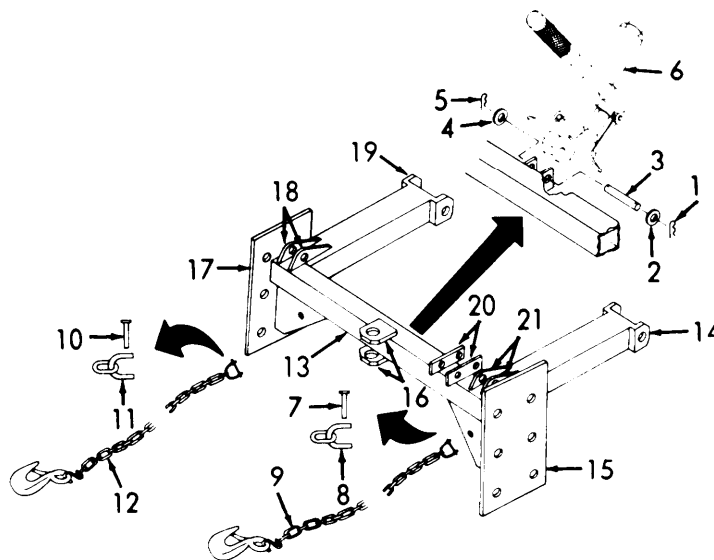

Figure 3-18. Front Axle Frame, Removal.
- (1) Disconnect hydraulic jack (6, Figure 3-18) from front axle frame (13).
- (a) Manually support hydraulic jack (6).
- (b) Remove two cotter pins (1 and 5), two washers (2 and 4), and pin (3).
- (c) Separate hydraulic jack (6) from front axle frame (13).
- (2) Remove safety chains (9 and 12).
- (a) Remove pin (7) from left safety chain shackle (8). Separate safety chain (9) from front axle (13).
- (b) Remove pin (10) from right safety chain shackle (11). Separate safety chain (12) from front axle frame (13).